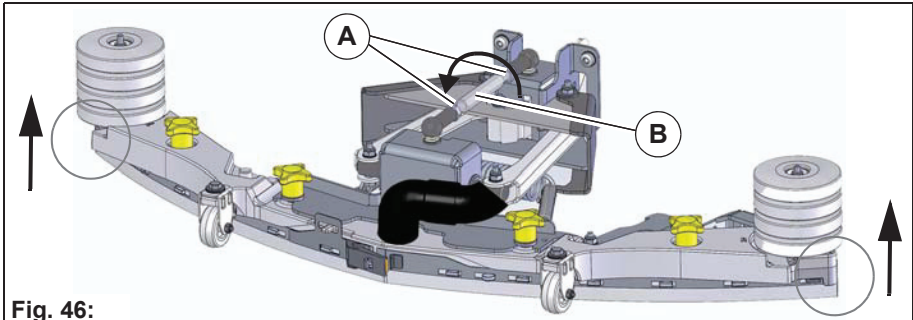

Fig. 46:
2. Loosen the lock nuts **Fig. 46-A** and turn the threaded bar **Fig. 46-B** to adjust the squeegee ensuring both ends of the sealing strips barely have contact with the ground.
- Turn the threaded bar counter-clockwise: The distance of the sealing strip to the ground increases at the ends **Fig. 46**.